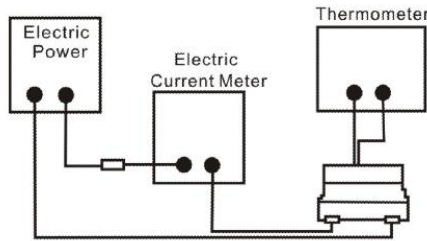

Fig.5.3.3-1
- d. Definition of Temperature rise current: DC current that causes the temperature rise ( $\Delta T = 40^\circ\text{C}$ ) from  $20^\circ\text{C}$  ambient (see Fig. 5.3.3-2).